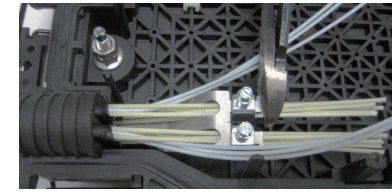

Figure 10
3.3 **Fully tighten lug nuts** to secure strength members (S.M.). Cut excess length of S.M. (Figure 10)